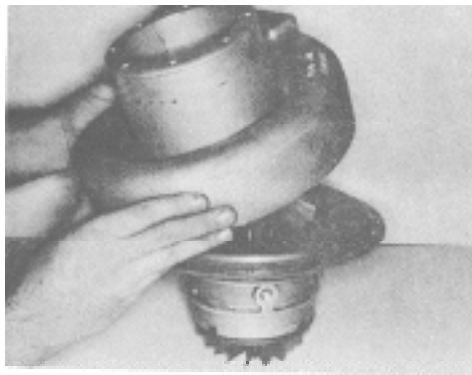
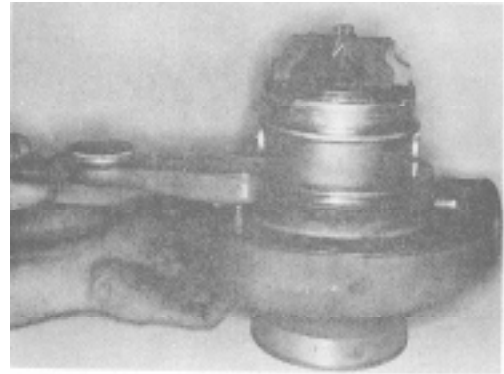

Fig. 10-34, T-542. Installing oil seal/diffuser plate and bearing housing assembly in collector housing
Fig. 10-35, T-543. Torquing oil seal/diffuser glate caoscrews in collector housing
14. Install collector housing on oil seal/diffuser plate and bearing housing assembly, Fig. 10-34, align index marks, secure with lockwashers and capscrews. Tighten to 5 to 7 ft-lb [7 to 10 N•m] torque. Fig. 10-35.